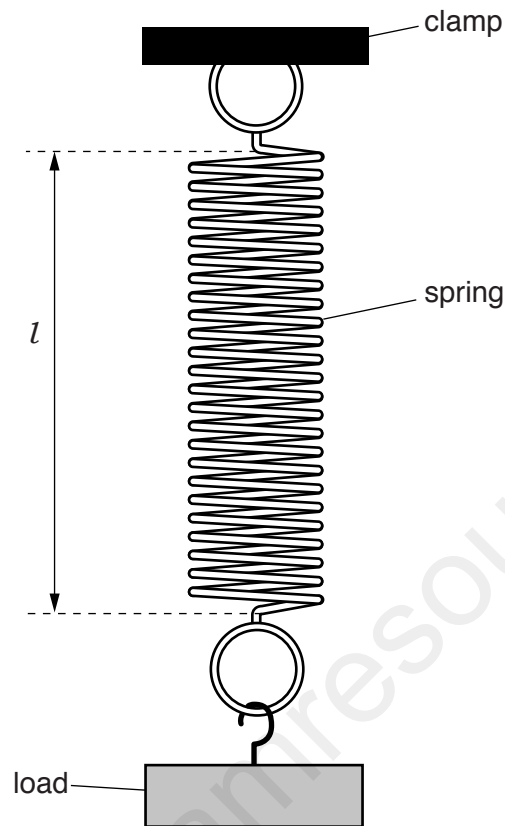

Fig. 2.1
The apparatus is shown in Fig. 2.1.
- (a) A load of weight $L = 1.0\text{N}$ is hung on the spring. The stretched length l of the spring, as indicated in Fig. 2.1, is recorded in Table 2.1.